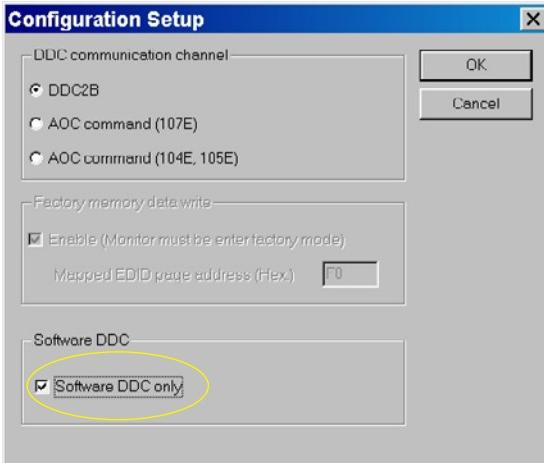

Fig. 16
- Click icon from the tool bar to bring up the Configuration Setup windows again. Then, select "Software DDC only" as shown in Fig. 16. Click "OK".
4. Access "Factory Mode" and enable "Software DDC only" as shown in Fig. 17 & Fig. 16.